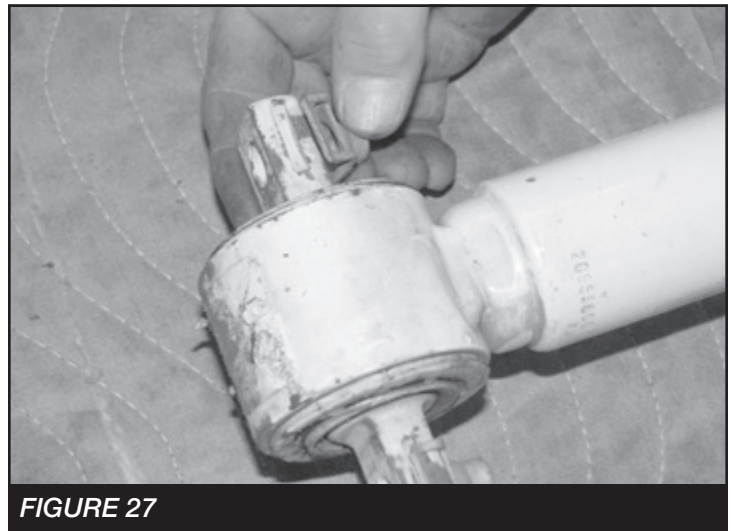

FIGURE 27
28. Locate the factory coil over and remove the sheet metal nut from the lower bar pin. **SEE FIGURE 27**